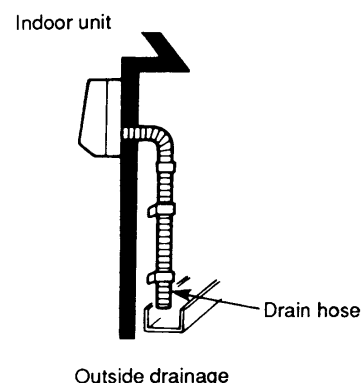

Fig. 2
- select a location where piping and drain pipe have shortest run to the outside. Fig. 2.